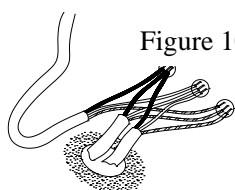
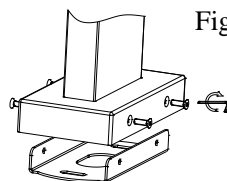
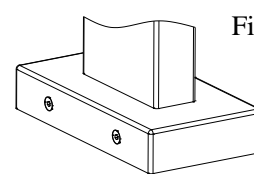

Figure 10
Figure 11
Figure 12
2.5 After the chassis is installed, according to the instructions of the power cord label of the lamp, connect the power cord with the mains, and do a good job of waterproof and anti-leakage measures, and then lock the lamp smoothly on the stainless steel chassis, and the installation of the lamp is completed, Figure 10, Figure 11, Figure 12.